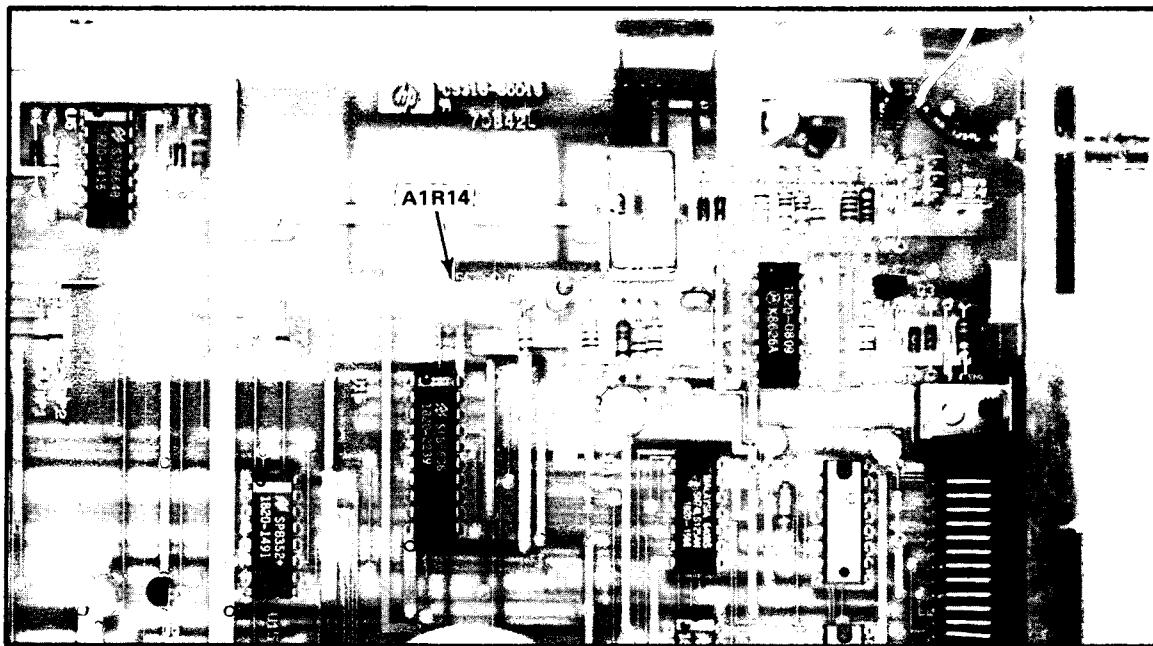

Figure 5-5. Internal Time Base Adjustment Location
- 5-20. The following adjustment sets the frequency of the standard internal time base (see *Figure 5-5*).